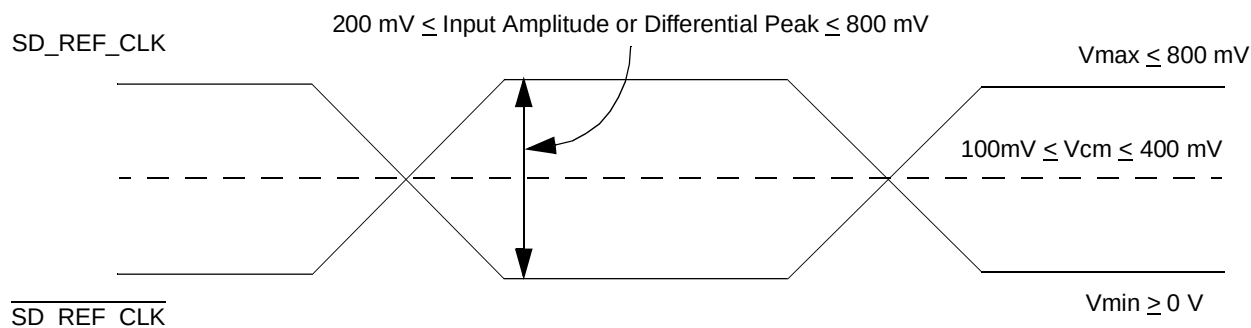

Figure 47. Differential Reference Clock Input DC Requirements (External DC-Coupled)
- For **external DC-coupled** connection, as described in Section 2.20.2.1, “SerDes Reference Clock Receiver Characteristics,” the maximum average current requirements sets the requirement for average voltage (common mode voltage) to be between 100 mV and 400 mV. Figure 47 shows the SerDes reference clock input requirement for DC-coupled connection scheme.